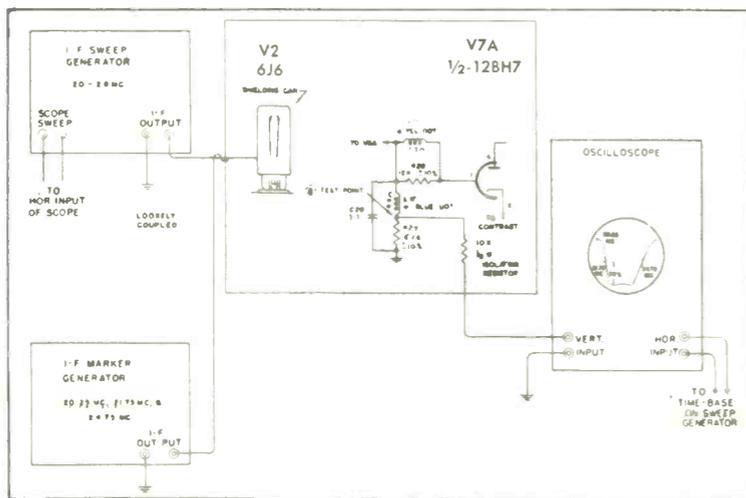

FIG. 13. I-F ALIGNMENT BLOCK DIAGRAM
4. Connect TV I-F Signal Generator through a 1500 MMF condenser to Test Point (A) of tuner unit; low side to ground. (See schematic diagram.)
5. Connect negative lead of V.T.V.M. (or meter of 20,000 ohms-per-volt, or better) to 4.7K diode load resistor TEST POINT (B); positive lead to ground. (See schematic diagram.)
11. Remove Signal Generator. Feed a video I-F Sweep Generator (20 to 28 MC) through loosely coupled shield of 6J6 converter tube, making sure shield is not grounded. (Refer to Fig. 13.)